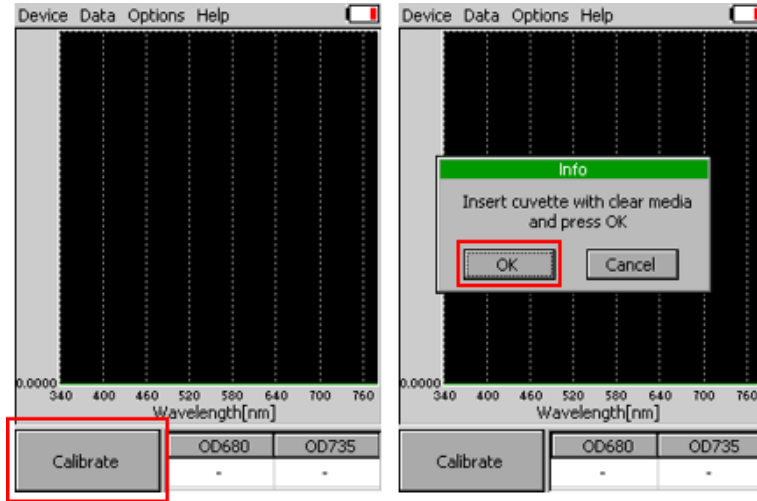

Fig. 2 Calibration of device.
- In the main window go to **Calibrate** > press **OK** (Fig. 2) and wait until the calibration step is completed.